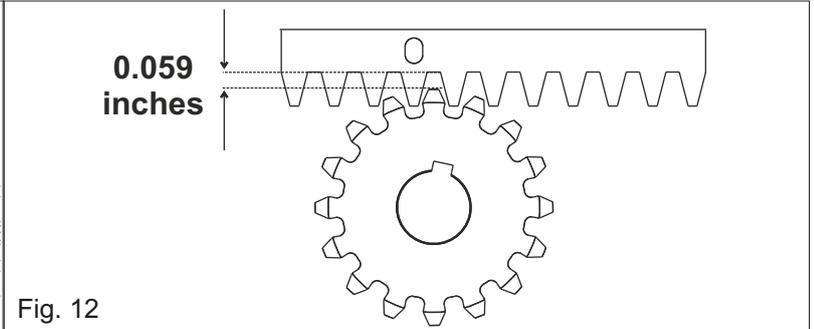

Fig. 12
5.6. To avoid that the gate weights down the pinion (Fig.12) lift up the whole rack about **0.059 inches**